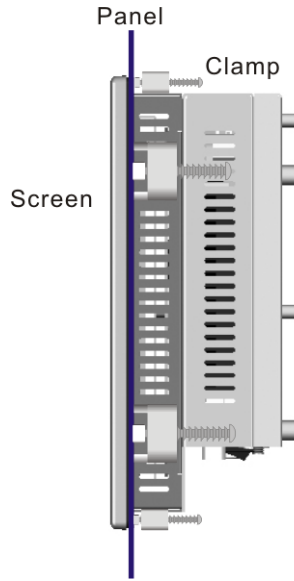

Figure 3-13: Tighten the Panel Mounting Clamp Screws
- Step 5:** Tighten the screws that pass through the panel mounting clamps until the plastic caps at the front of all the screws are firmly secured to the panel (**Figure 3-13**).